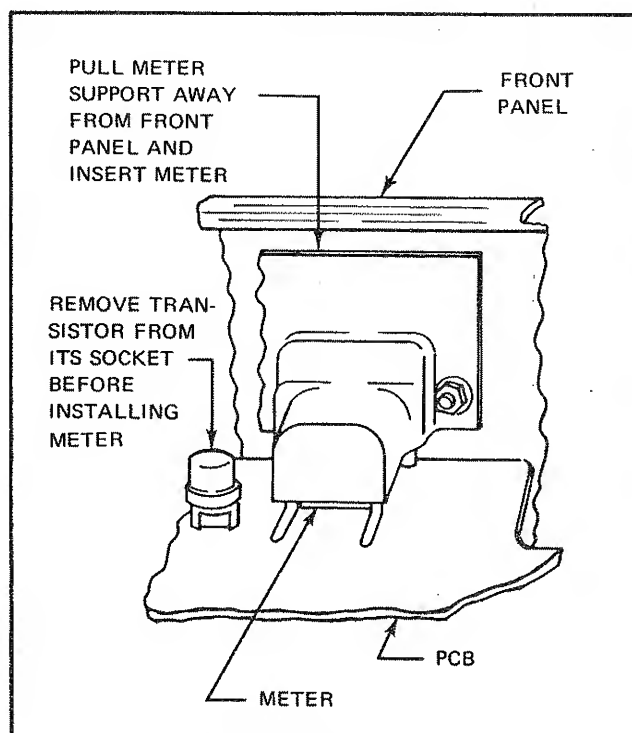

Figure 6-8. BATTERY OPTION METER INSTALLATION.
- f. Refer to Figure 6-8 and install the meter by performing the following steps:
5. Using a length of the tinned copper wire, connect and solder the left meter lug (viewed from rear) to the hole in the PCB which is located just below the lug (see Figure 6-8). In like manner, connect and solder the right meter lug to the right-hand hole.